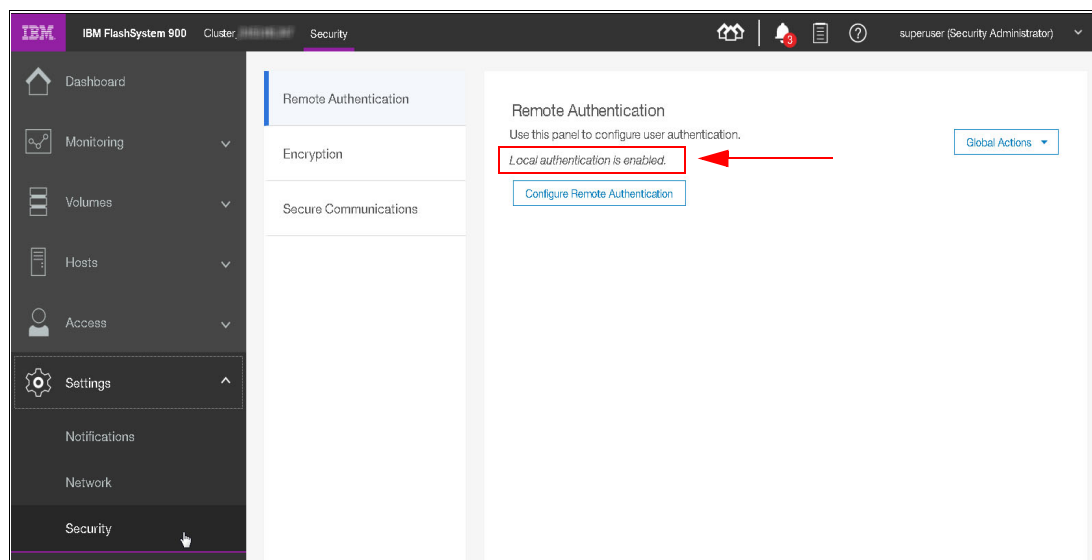

Figure 7-19 Enabling remote authentication
1. As shown in Figure 7-19, the default enabled authentication method is local authentication.